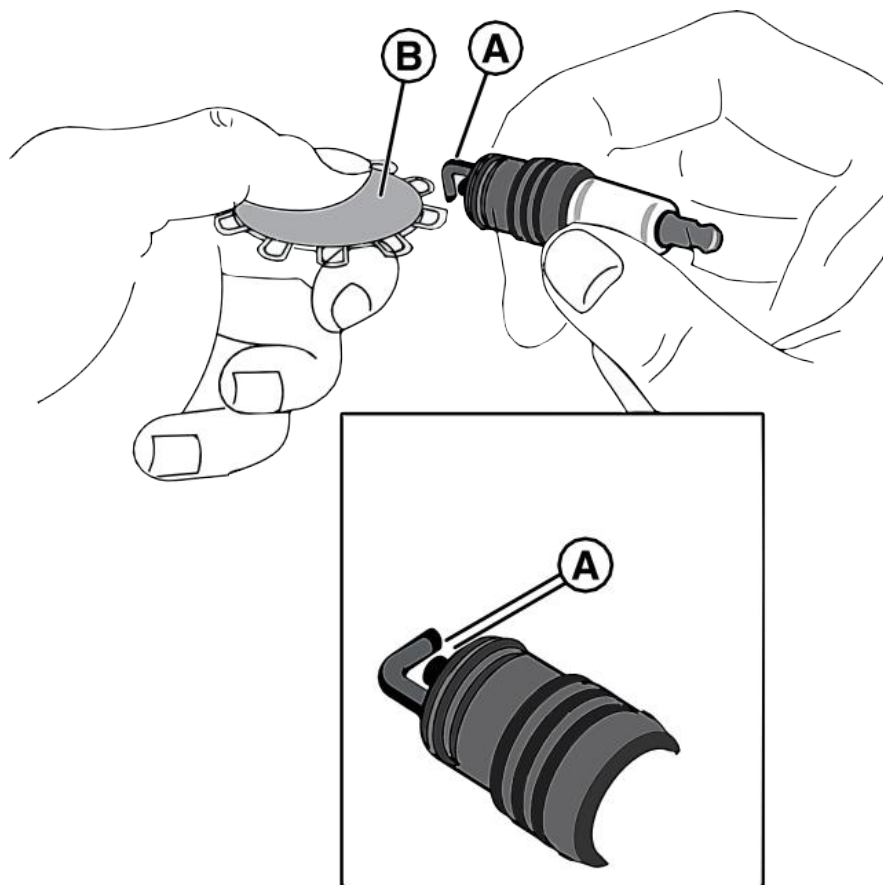

Figure 15
8. Check the spark plug electrode gap using a wire gauge (B+A) (Figure 15). If the spark plug gap is not within specification, replace the plug. The recommended spark plug gap can be found in the *Engine Specifications* section.